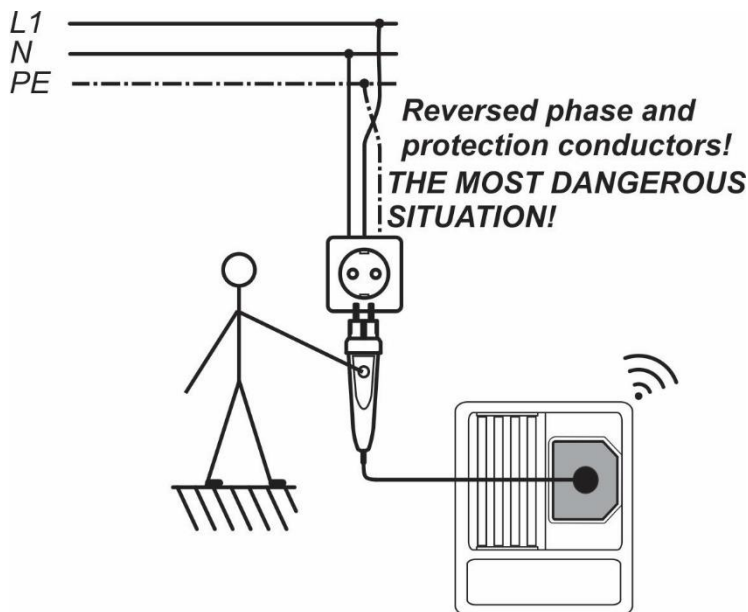
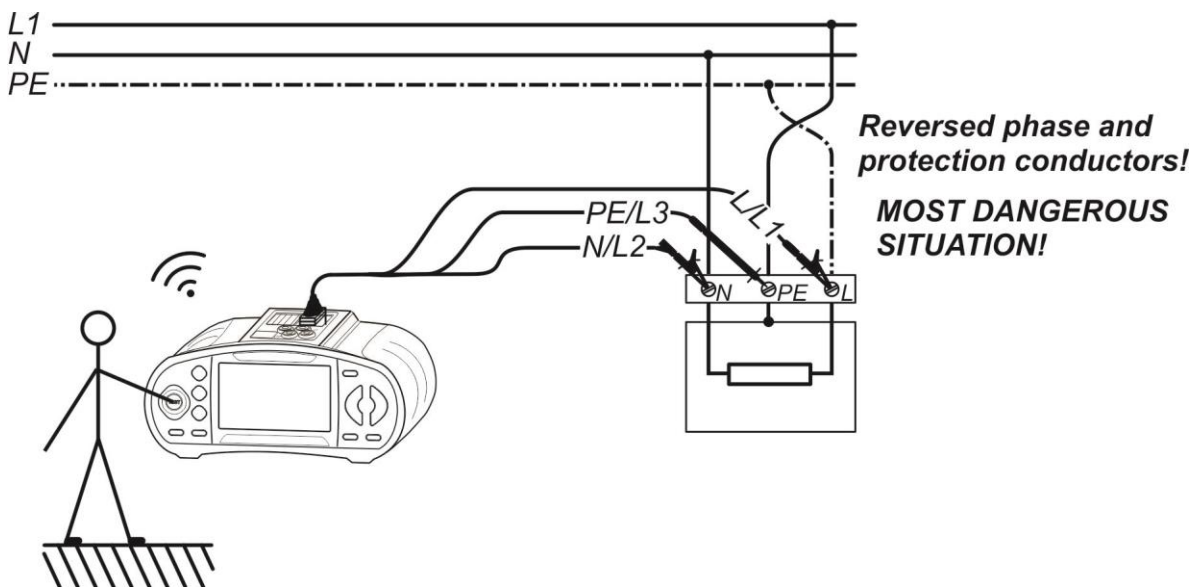

Figure 5.36: Reversed L and PE conductors (plug commander)
Figure 5.37: Reversed L and PE conductors (application of 3-wire test lead)
- ❑ **Connect** test leads to the item to be tested ( see *Figure 5.36* and *Figure 5.37*).